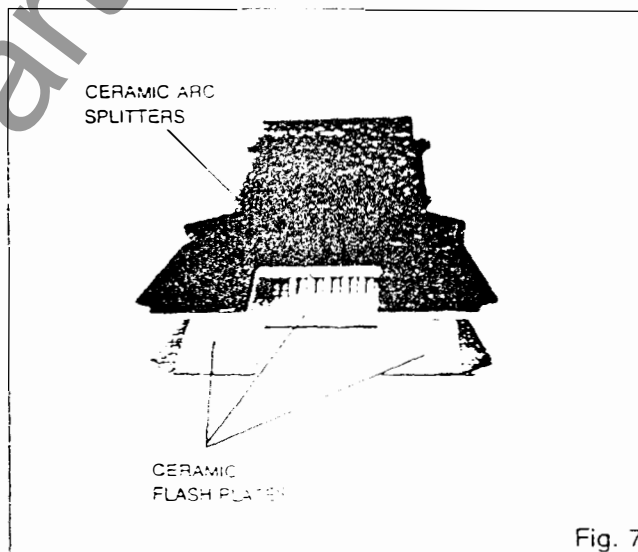

Fig. 7
1. Blow out dust and dirt by directing dry compressed air from the bottom of the arc chute up through the spaces between the ceramic arc splitters. The air should also be directed over the surface of the ceramic flash plates located in the lower portion of the chute (refer to Figure 7).